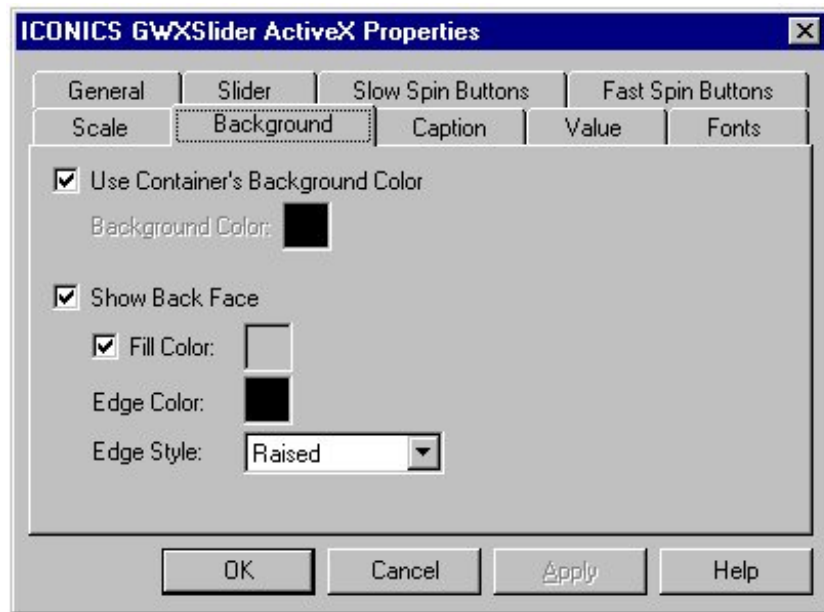

Figure 17-9: GWXSlider ActiveX Properties Dialog Box: Background Tab
2. Select the Background tab (Figure 17-9).